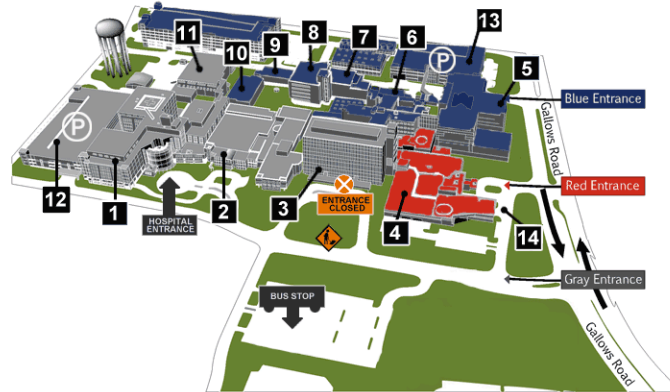

figure1
- Parking Capacity:** In order to minimize parking lot/garage size, South Patient can consider sharing parking facilities with adjacent buildings such as number 12 and number 13 existing parking for the hospital show in figure 1 below: